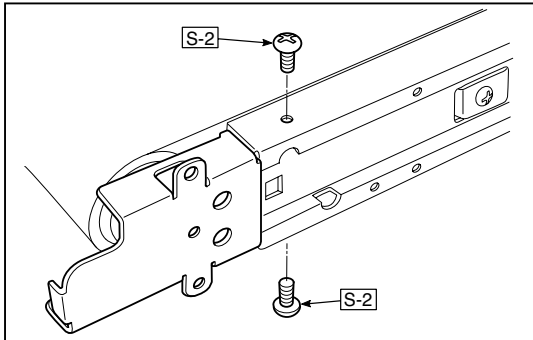

Fig.26
1. Remove the "S-2" screws shown in the figure 26.